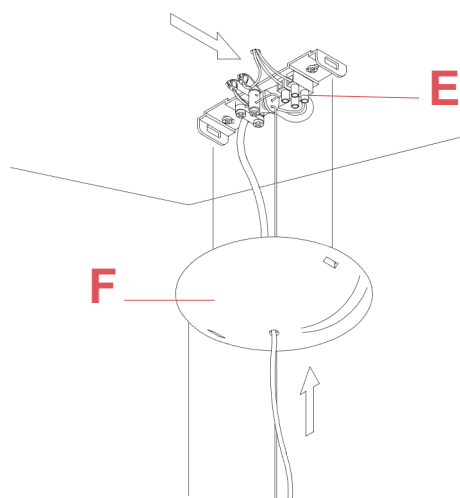

Fig.5
Connect the power cable to the terminal block (E) and earthing. Mount the ceiling-rose (F).(Fig.5)